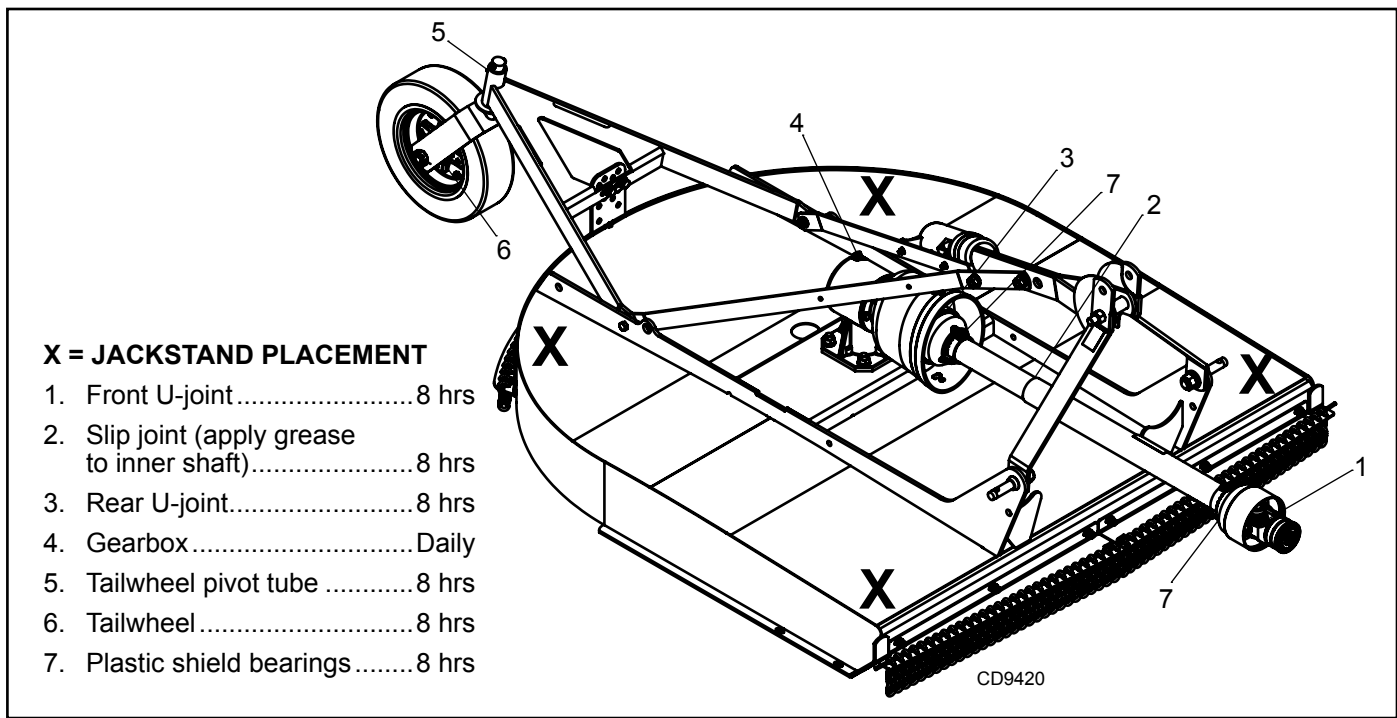

Figure 10. Jackstand Placement and Lubrication Points
1. Jackstands with a load rating of 1000 lbs. or more are the only approved blocking device for this cutter. Install jackstands (shown by Xs in Figure 10) under the cutter before working underneath unit.
2. See Figure 10 for lubrication points and frequency or lubrication based on normal operating conditions. Severe or unusual conditions may require more frequent lubrication.
2. Raise cutter and block securely (see **Blocking Method, Figure 10**).
3. Align crossbar (1) with blade access hole in the cutter frame. Remove blade pin nut (5) and lock washer (4). Carefully drive pin (3) out of crossbar.